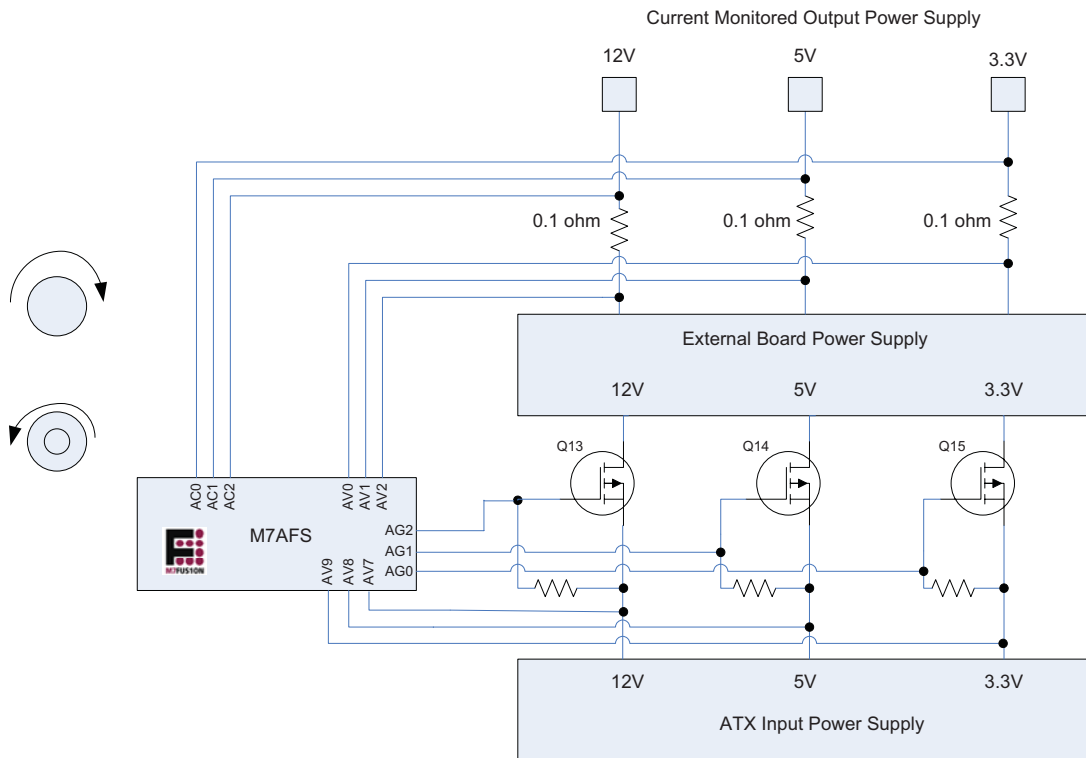

Figure 2-8. M1AFS1500-FG484 Functional Description
The ATX connections demonstrate the analog function features of the M1AFS1500-FG484 device. The functional description and pin out information is shown in Figure 2-8. All supplies on the ATX power supply can support a maximum of 10 A.
All input voltages (12 V, 5 V, 3.3 V) are monitored through the AV pads on the M1AFS1500-FG484 device (Figure 2-8 on page 18). The input voltage goes to a P-Type Power MOSFET (FDS7079ZN3). All three voltages can be switched On/Off using the gate driver (AG) controlling the FET.